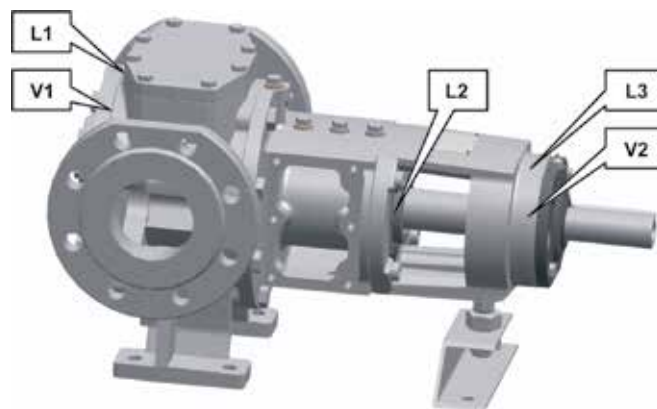

Fig 1 – Indication of monitoring possibilities and advised locations (optionally)
Surface temperature monitoring is always of extreme importance in the following areas, see figure 1:
- Monitoring of the surface temperatures of the pump casing at indicated areas (see fig. 1 and 2) and controlling or monitoring the quench medium in case of a quenched shaft seal ensures sufficient protection against potentially dangerous situations.